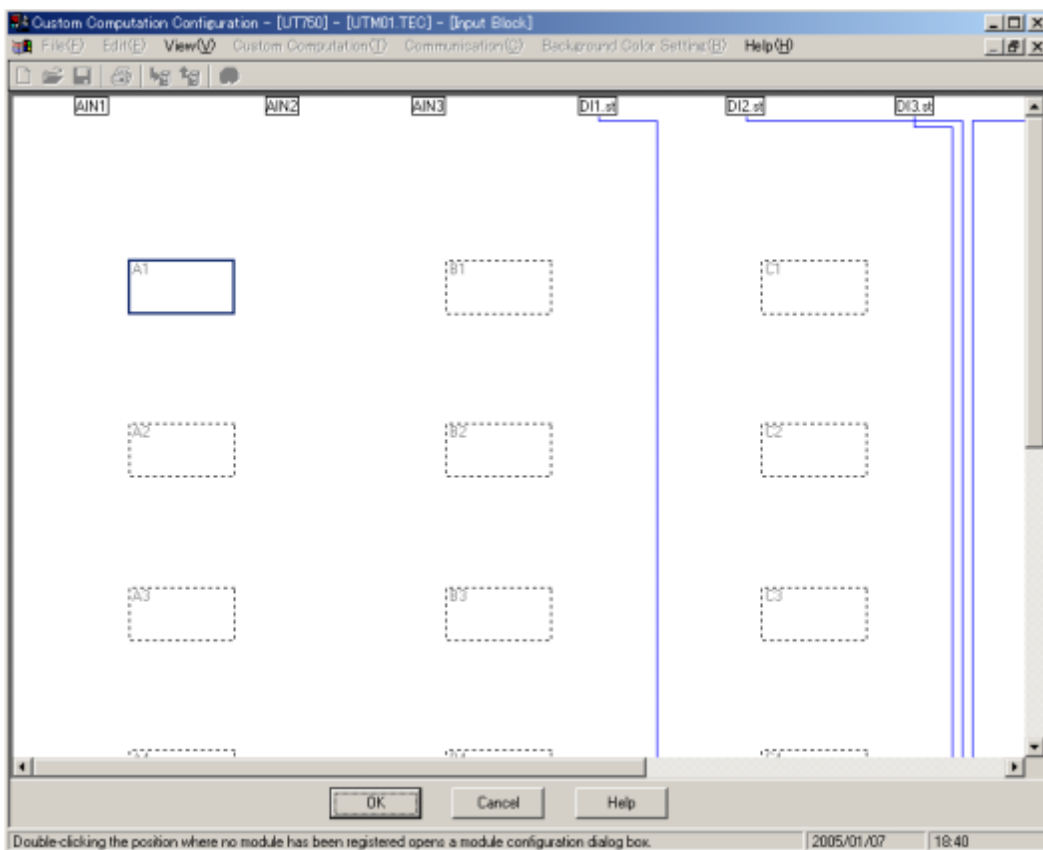

Figure 12.4.2 [Input Block] Dialog Box
- (1) In the [Custom Computation Configuration Menu] dialog box (Figure 12.0.2), click <Input Block>. The [Input Block] dialog box (Figure 12.4.2) appears.